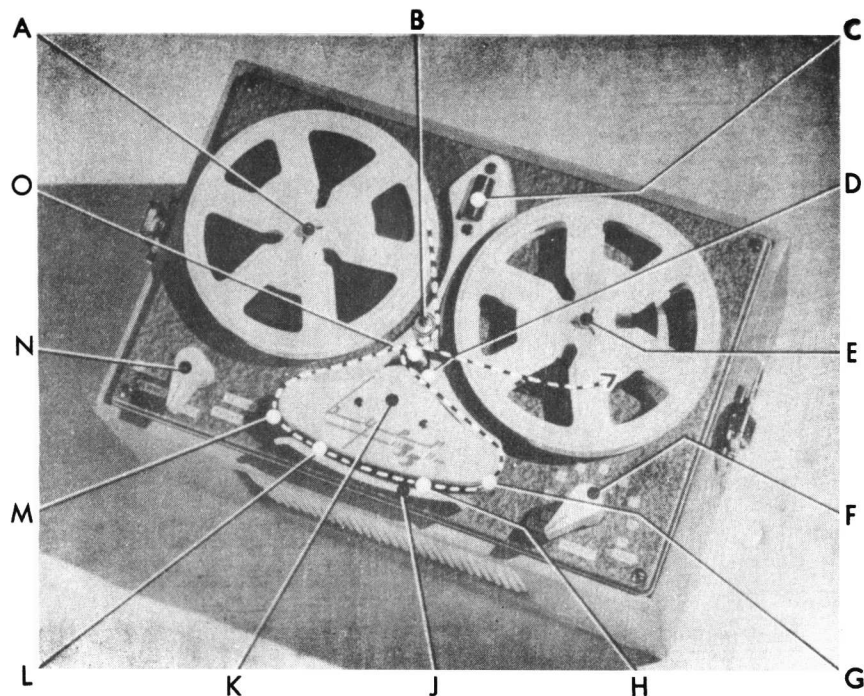

Fig.1
5. Now slip tape lying between supply spool and primary roller over tape guide and slip tape lying between secondary roller and takeup spool over capstan to form threaded path shown in Fig. 1. Note. Threading may be carried out quite casually. Slack tape will be taken up when selector switch is turned to "play" or "record".